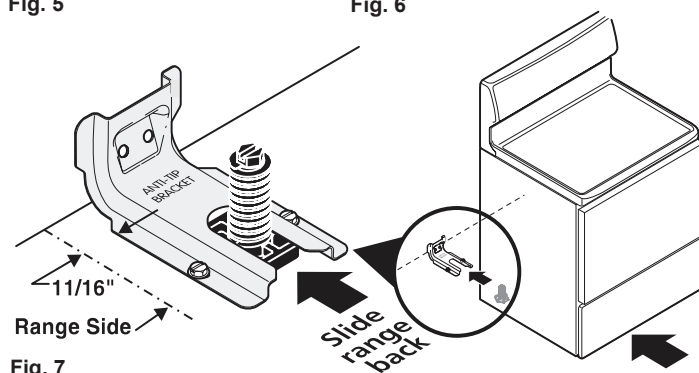

Fig. 7
1c. Level and Position Range - Level range by adjusting the (4) leveling legs with a wrench. **Note:** A minimum clearance of 1/8" is required between the bottom of the range and the leveling leg to allow room for the bracket. Use a spirit level to check your adjustments. Slide range back into position (See Fig. 7). Visually check that rear leveling leg is inserted into and fully secured by the Anti-Tip Bracket by removing lower panel or storage drawer. For models with a Warmer Drawer or broiler compartment, grasp the top rear edge of the range and carefully attempt to tilt it forward.